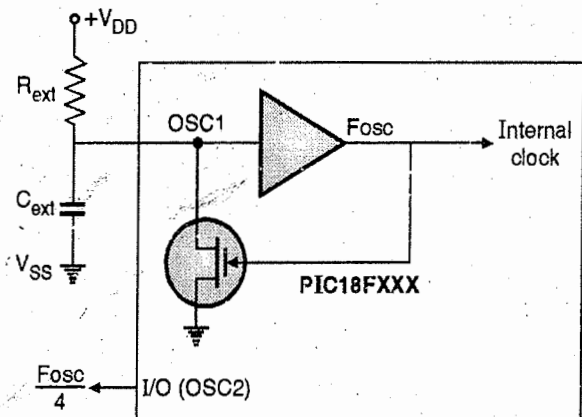

Fig. 4.13.7
- Fig. 4.13.7 shows the External RC oscillator I/O mode.